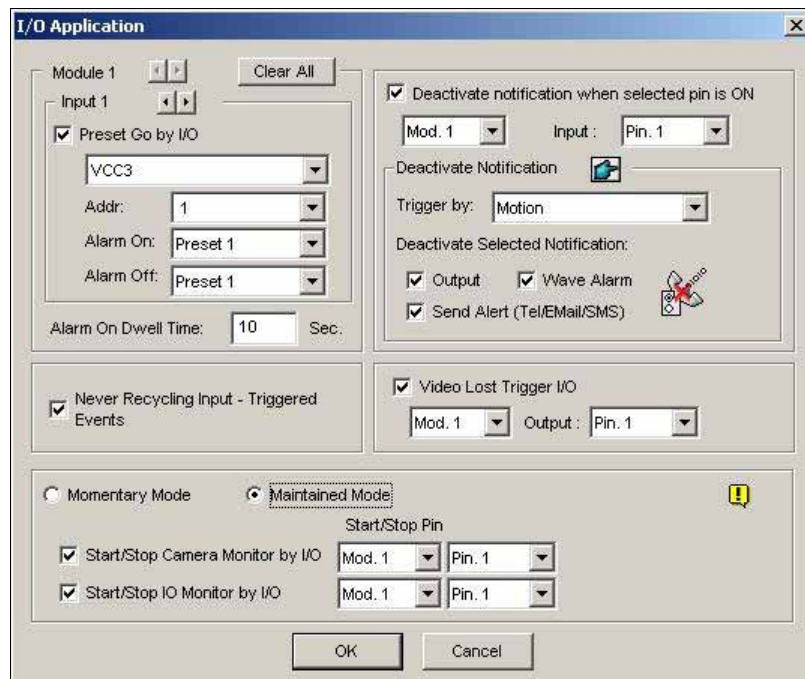

Figure 2-8 I/O Application
- Note:** The delay functions in **Invoke to Send Alerts** and **Output Module** allow you time to deactivate prior alert and output settings. To deactivate these settings, you may stop monitoring or enable the assigned input module set at “**Deactivate notification when selected pin ON**” in I/O Application window (see Figure 2-8).
The option lets you instantly deactivate all the prior alarm and alert settings (Output, Wave Alarm, Send Alerts), when an assigned input module is triggered. Open the I/O Application window (refer to Figure 2-8), and find the following section.